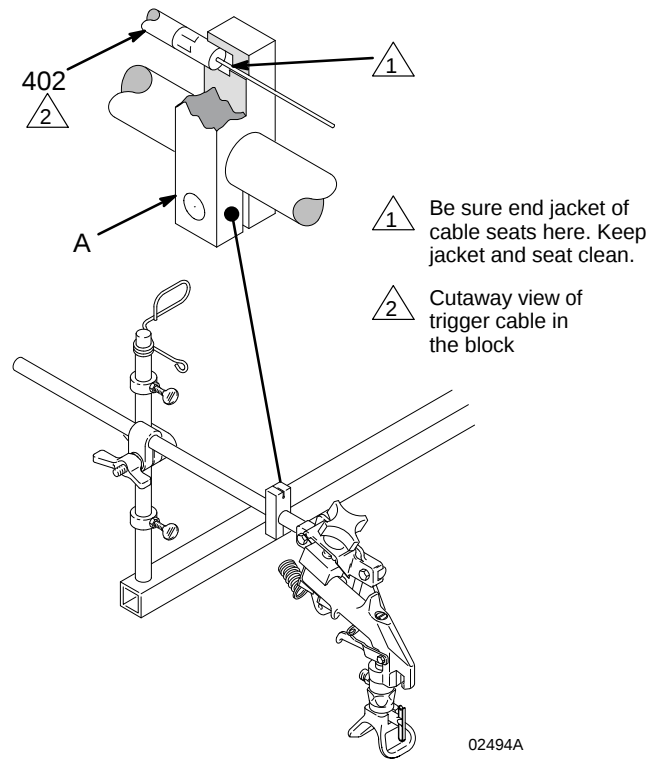
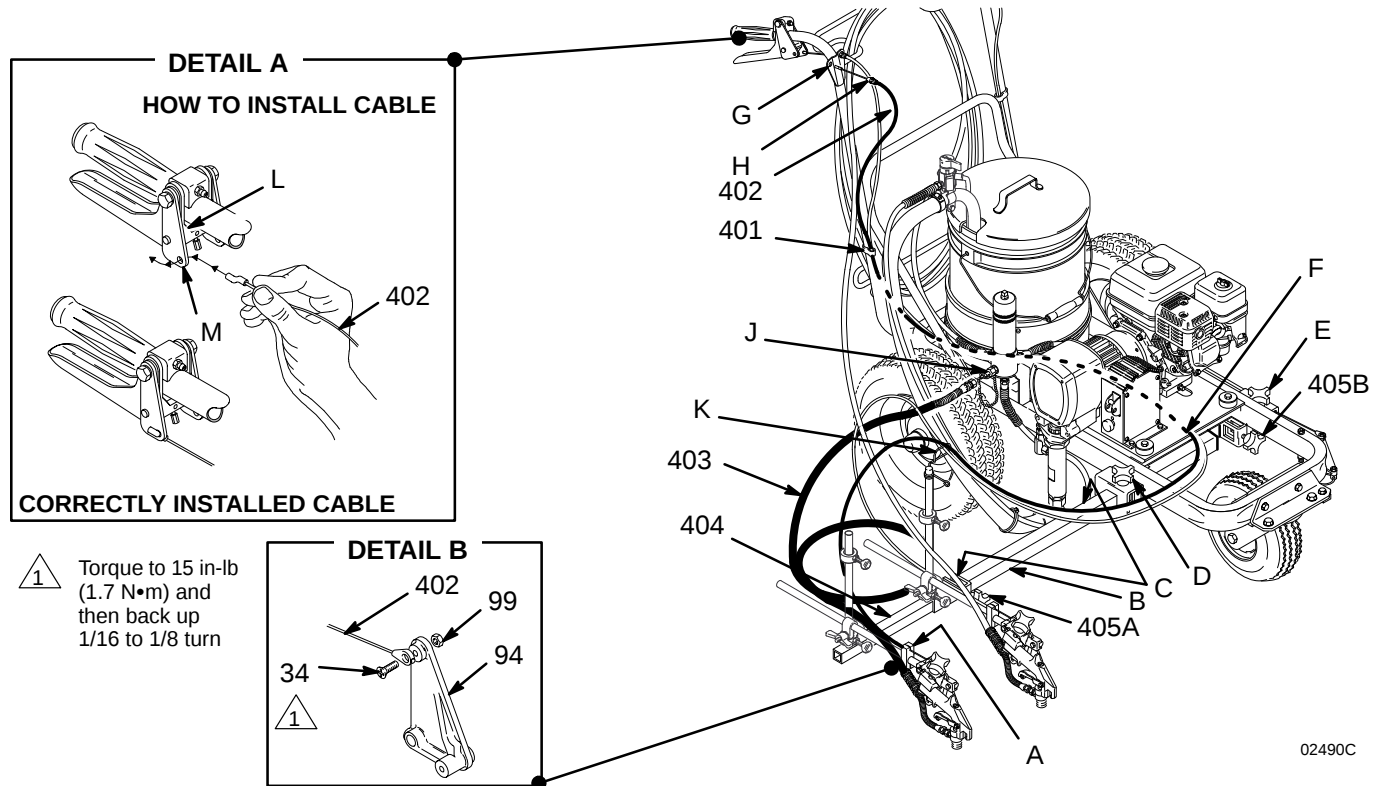

Fig. 1
Fig. 2
To reduce the risk of an injection injury due to remotely triggering the gun by accident, always disengage the trigger cable from the block before handling the gun. See Fig. 2, Detail A. **THE GUN WILL TRIGGER BRIEFLY WHEN RELEASING THE CABLE!** Before you remove the gun from the holder, engage the gun's trigger safety latch.
NOTE: Fig. 2, which shows the second gun (outside gun) being mounted on the pump side of the cart, represents the installation at step 3.
1. Disengage the cable (402) from the block (A) of the unit's existing gun. See Fig. 1. Engage the trigger safety.
2. Loosen the carriage clamps (D, E). Slide the carriage bar (B) off the cart.
3. For mounting the second gun bar on the pump side of the cart: Slide a clamp (405A) onto the carriage bar (B) as shown in Fig. 2. Slide the carriage bar through the pump-side carriage clamp (D) and into the center of the cart. Now slide another clamp (405B) onto the carriage bar as shown in Fig. 2.
6. Disconnect the trigger cable from the second gun at the screw (34). See Fig. 2, Detail B.
7. Unscrew the filter's second outlet cap (J). Screw the hose (403) onto the filter nipple.
8. Remove the guide clamp screw (F).
9. Snap the cable bushing (H) into the fluid plate (G). Route the trigger cable (402) parallel with the main gun cable, separating the guide clamp (F) to feed the cable through it. Install and tighten the guide clamp screw (F). Rout the cable through the cable (K) and to the second gun.
10. Slide the hooked end of the cable (402) through the hole (M) in the lever plate (L). Rotate the hook and slide it back until it hooks on the plate. See Fig. 2, DETAIL A.
11. Reconnect the trigger cable to the second at the screw (34). Torque the screw to 15 in-lb (1.7 N•m), and then back it off 1/16 to 1/8 turn and tighten the jam nut (99) while holding the screw (34). Be sure the plate (94) moves freely.
12. Install the clip (401) to hold the cable onto the frame.
13. Connect both trigger cables to the blocks (A). See page 4. Now adjust the cable tension. See page 8.